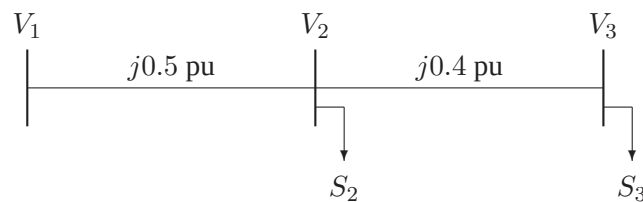

FIGURE 32
3.16. The one-line diagram of a three-phase power system is as shown in Figure 32. Impedances are marked in per unit on a 100-MVA, 400-kV base. The load at bus 2 is $S_2 = 15.93 \text{ MW} - j33.4 \text{ Mvar}$, and at bus 3 is $S_3 = 77 \text{ MW} + j14 \text{ Mvar}$. It is required to hold the voltage at bus 3 at $400 \angle 0^\circ \text{ kV}$. Working in per unit, determine the voltage at buses 2 and 1.